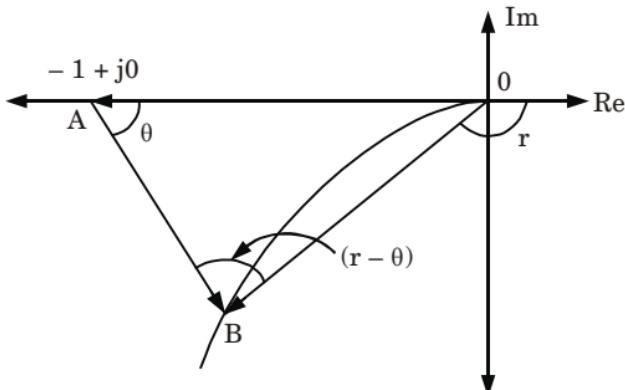

Fig. 6.
3. The polar plot of eq. (2) is shown in Fig. 6.
4. From Fig. 6, $\vec{OB} = G(j\omega)$